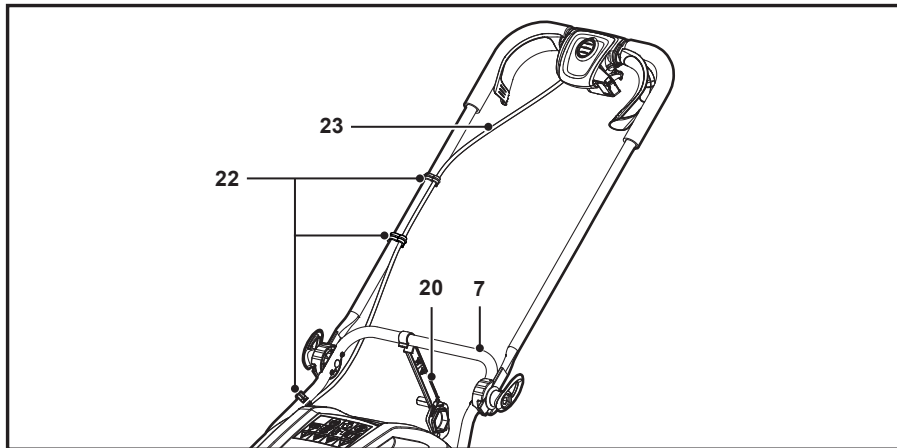

Fig. 3
4. Apply inward pressure on both ends of the upper handle (6), firmly pushing it into the groove of the brackets of the lower handle (7).
5. While doing so, push the bolts (21) fully into the holes and fully tighten the wing nuts (8) to secure the upper handle (6) in place.
6. Secure the motor cord (23) against the handle frame with the cord clips (22) (Fig. 3).
7. Clip the spanner (20) onto the lower handle (7) for storage (Fig. 3).